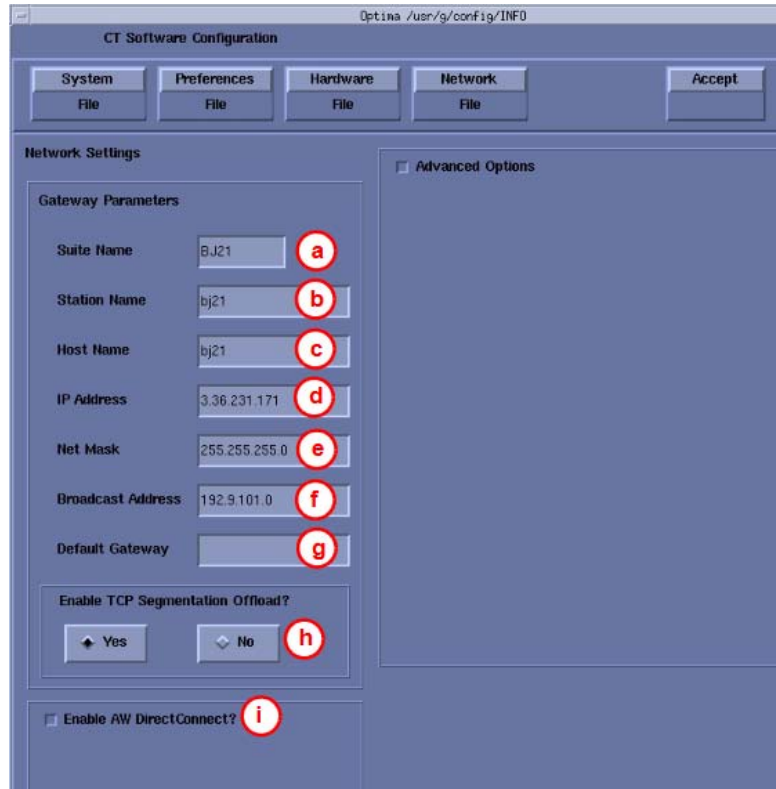

Figure 6-16 Network Settings Screen
11.) Select the **NETWORK** button to display the Network Settings Screen as shown in **Figure 6-16**.